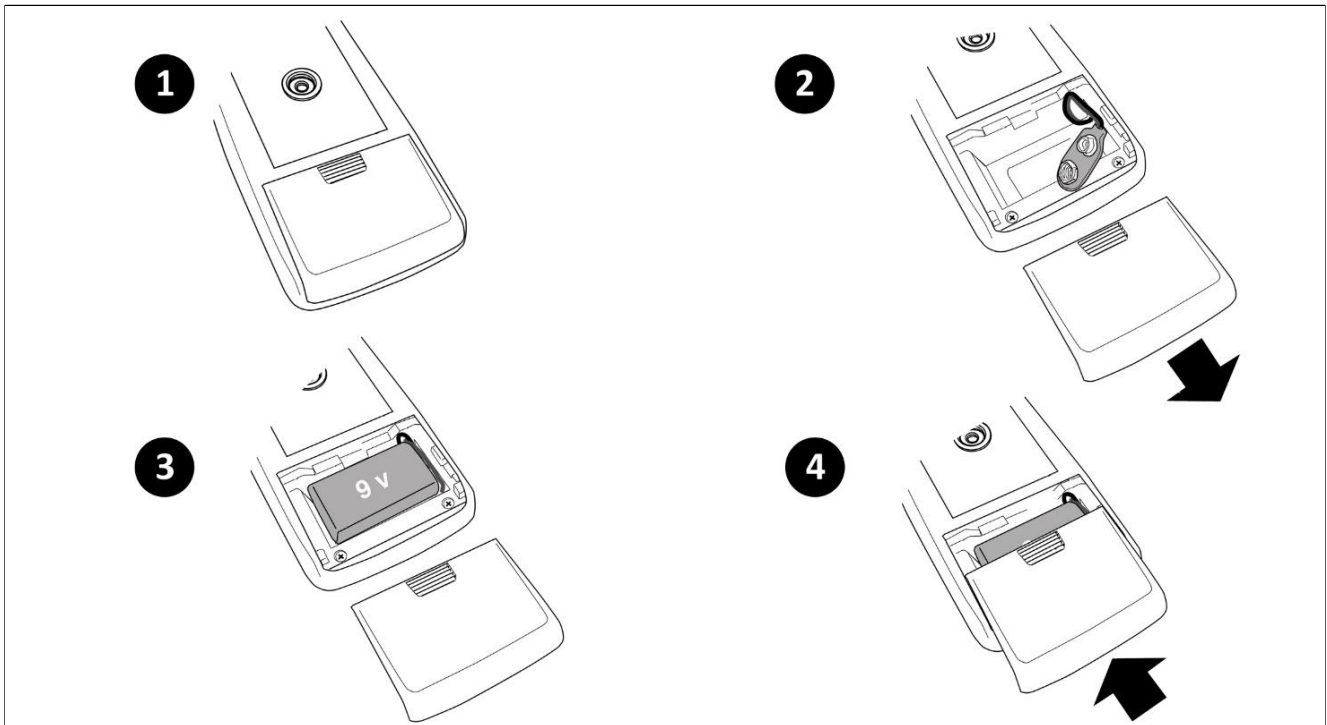

Figure 6. Battery Replacement (PCS-730B)
The PCS-730B uses one (1) 9 VDC alkaline battery (included), which provides an approximate life of **XX** hours. To install or replace the battery, follow this procedure (Figure 6):